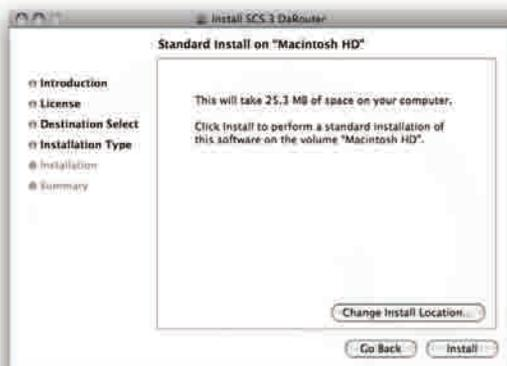

Figure 4.33
5. Click **Install**. (Figure 4.33)